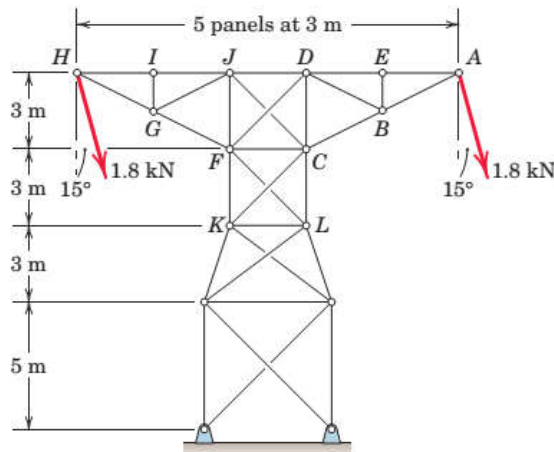

Fig.1
- e) List all cross brace members (whose presence can be neglected) for the given loading of the truss shown in Fig 1 to convert the tower as statically determinate truss.